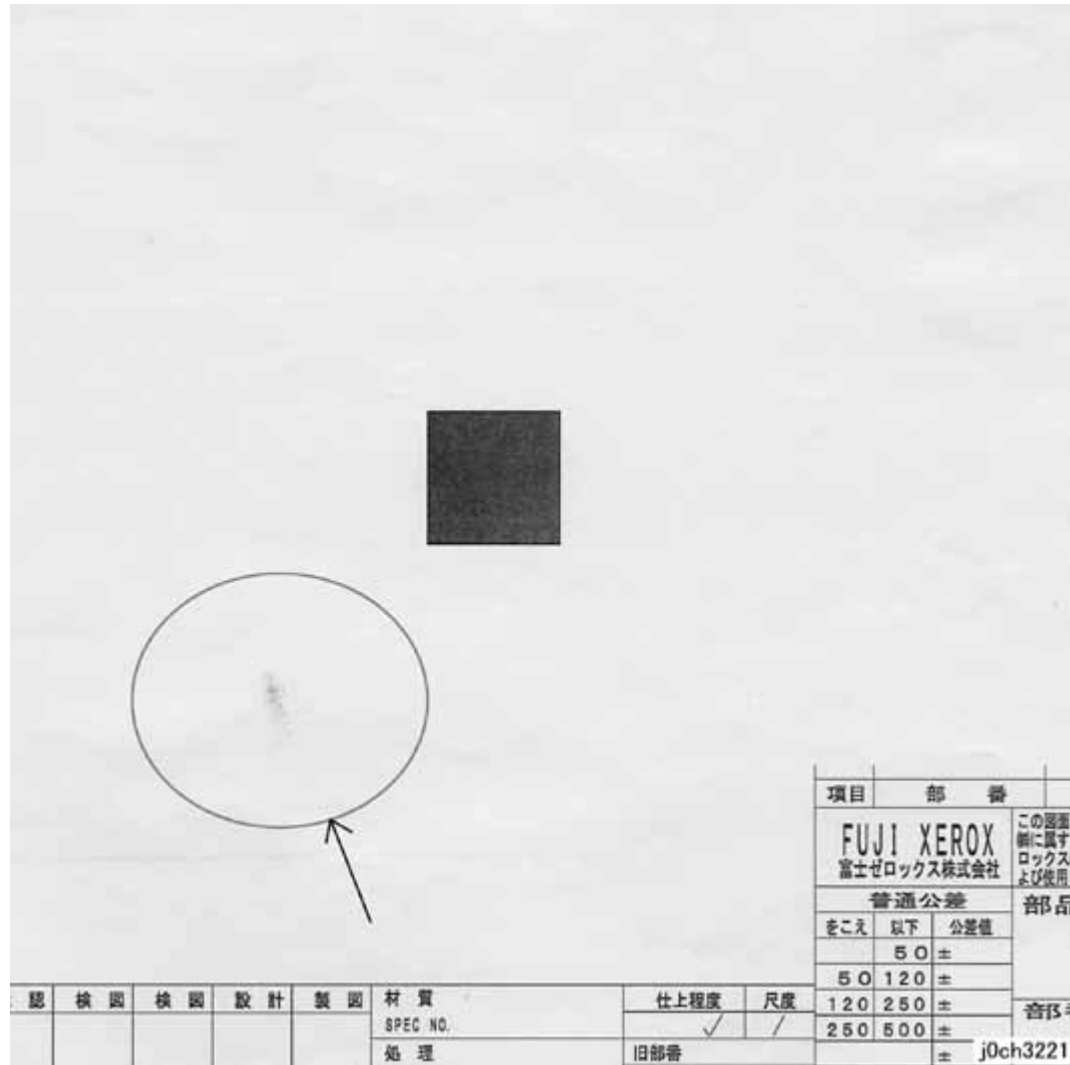

Figure 5 Toner Contamination
- Toner Contamination (Figure 5)